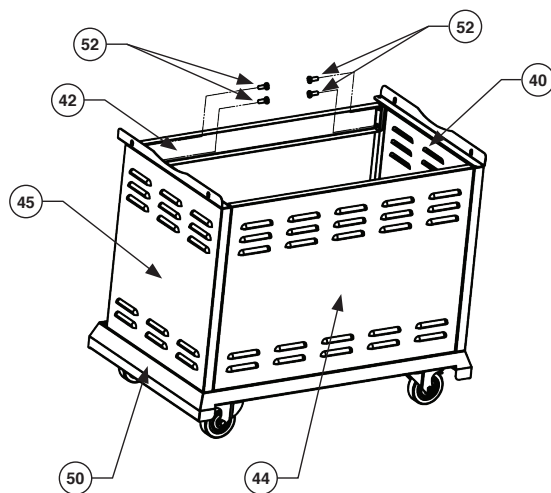

FIG 4
4. Locate the Beam (42) between Left Plate (40) and Right Plate (45) with  $\frac{1}{4}$ -20\*  $\frac{1}{2}$  Bolt (52). As shown in FIG 4.